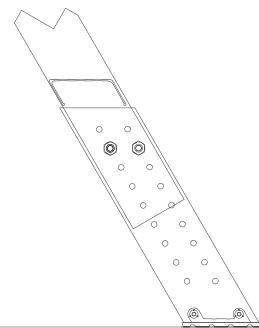

FIGURE 14
E. Slide aluminum foot over ladder rail as shown in Figure 14. Position so the rubber foot is in contact with the floor. Align with closest set of predrilled holes in rail. Attach using (2) 1/4" bolts and serrated nuts per side (included).